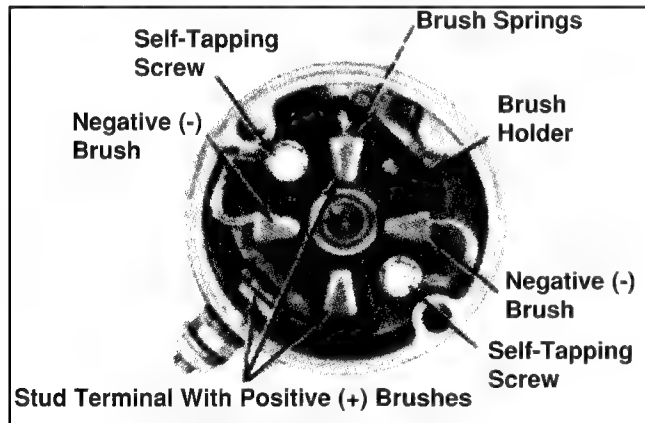

Figure 8-15. Commutator End Cap with Brushes.
1. Remove the brush springs from the pockets in brush holder. See Figure 8-15.